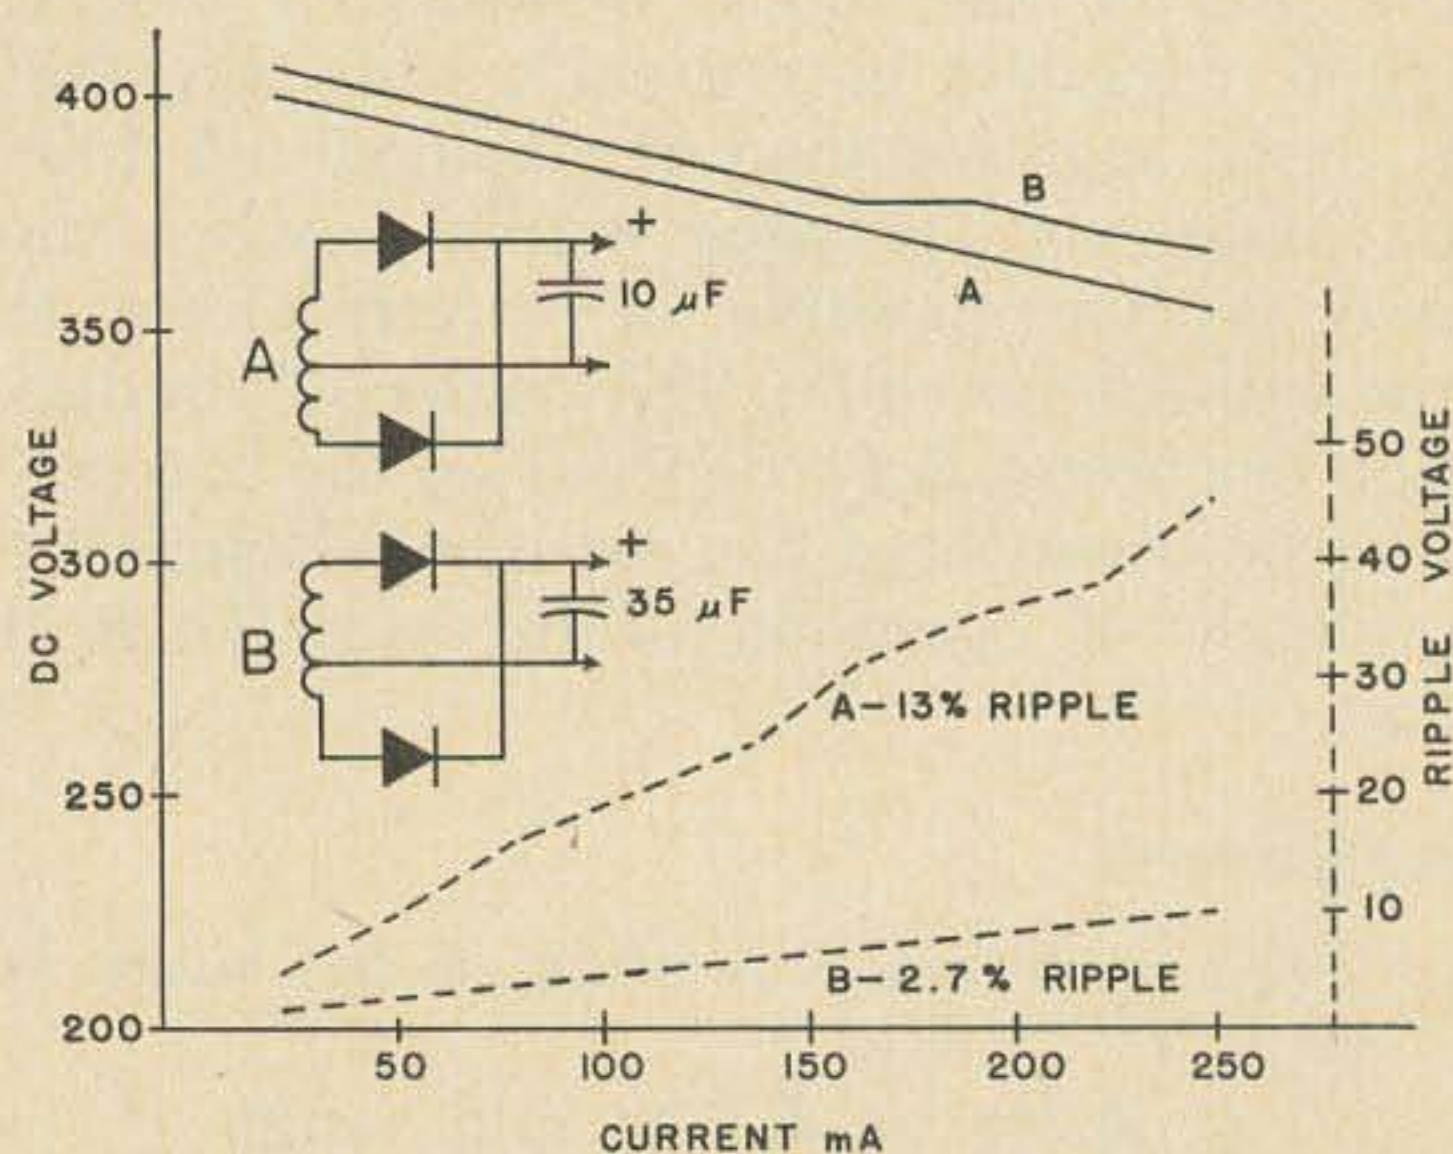

Fig. 4. As power supply load increases, voltage drops together with an increase in ripple.
2. Ripple—The graphs in Fig. 4 were made to determine the proper value of filter capacitor required to maintain a ripple constant of less than 3%. In this case an ac voltmeter, with a suitable blocking capacitor,